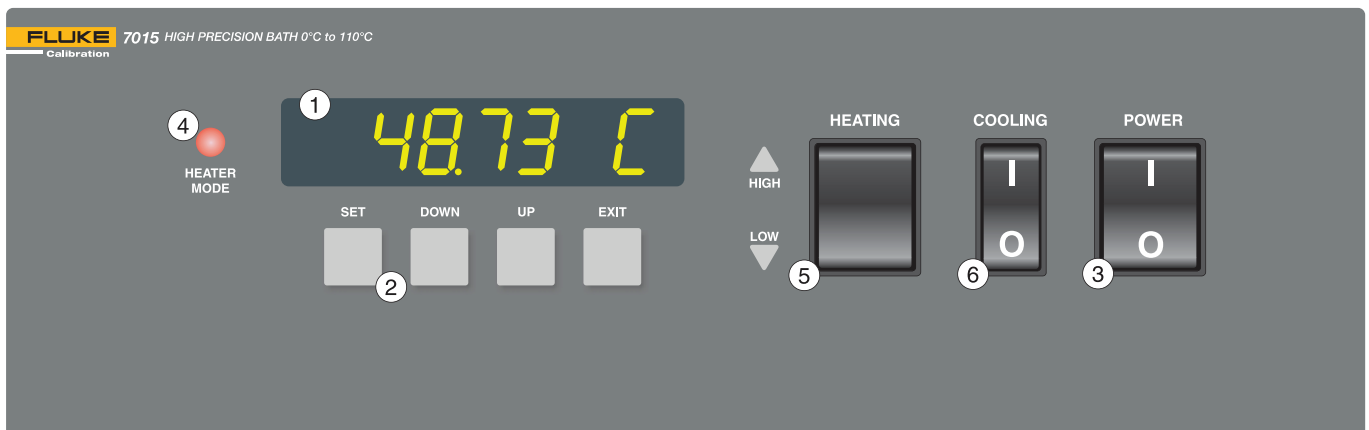

Figure 1 Front Panel
The following controls and indicators are present on the controller front panel (see Figure 1 below): (1) the digital LED display, (2) the control buttons, (3) the bath on/off power switch, (4) the control indicator light, (5) the heater power switch, and (6) the cooling power switch.
(1) The digital display is an important part of the temperature controller because it not only displays set and actual temperatures but also displays various bath functions, settings, and constants. The display shows temperatures in values according to the selected scale units °C or °F.
(2) The control buttons (SET, DOWN, UP, and EXIT) are used to set the bath temperature set-point, access and set other operating parameters, and access and set bath calibration parameters.